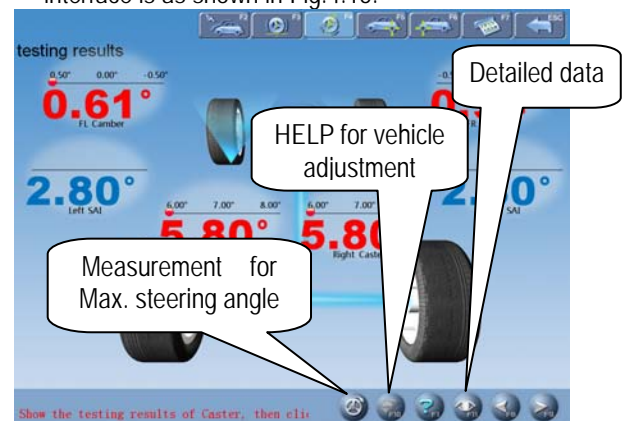

Fig.4.15
4. After test finished, please center the steering wheel. The system will automatically return to the next page to check the measurement result. The interface is as shown in Fig.4.15.